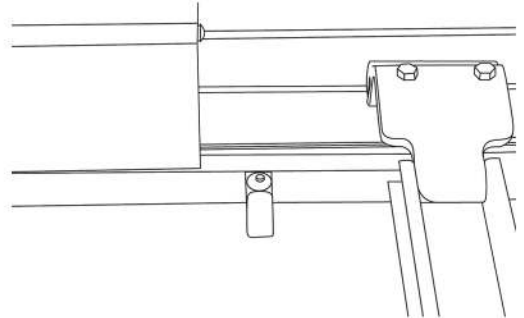

Figure 1. Coach Bracket Position
1. Mount the upper bracket $\frac{1}{2}$ " past the edge of the canopy and $\frac{1}{2}$ " below the awning rail with the #10 screw or molly rivet provided. (Refer to Figure 1)